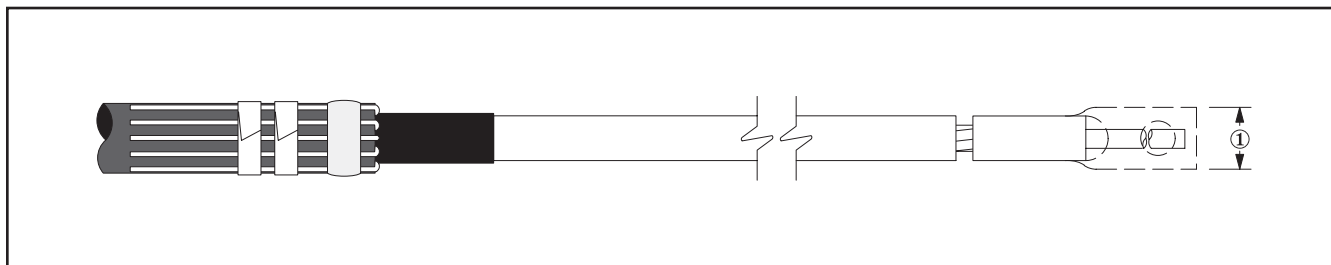

Figure 3
2.1 1. The termination assemblies are designed to fit over 3M™ Scotchlok™ Copper and Aluminum Lugs. If other lugs ① (Figure 3) will not fit through the termination core, clean the insulation (per Step C.) and slide termination on cable before installing lug. **Do not remove core at this time.**